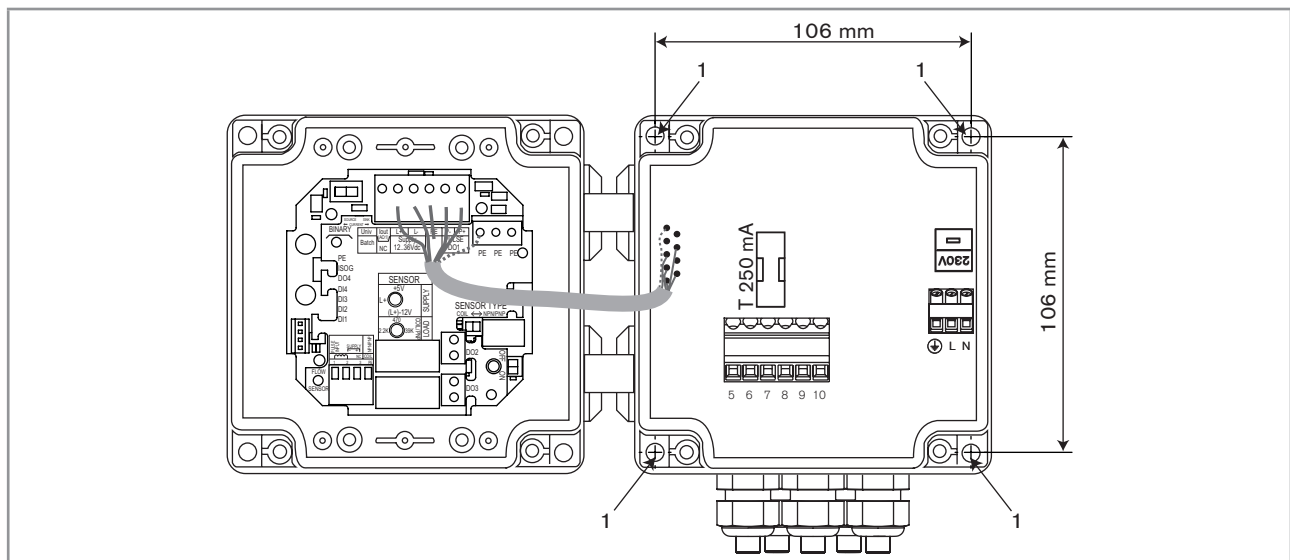

Fig. 19 : Installation of the dosing controller 8025 Batch in wall-mounted version
- Secure the housing to the support respecting the dimensions indicated in Fig. 19.